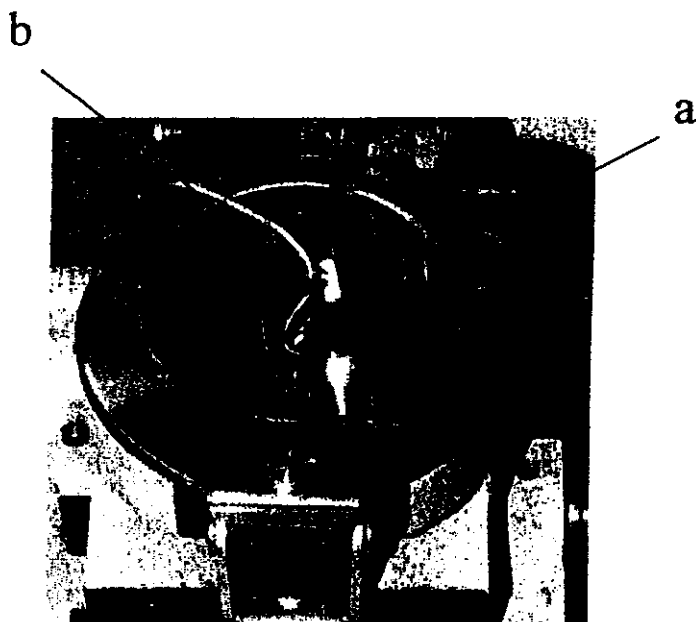

Fig.1
- Press spring **a**(Fig.1) , the bobbin case spring up and remove bobbin .
- Pull bobbin thread through slit beneath spring **b** (Fig.1)and pull thread about over 8 cm .